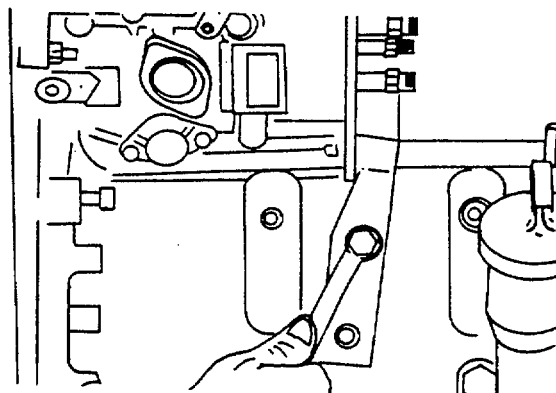

FIGURE 2-26. Support Bracket Removal.
2-32. Replace Fuel Pump Metering and Distributing Assembly. (FIGURES 2-26 through 2-31)
- a. Remove capscrews from support bracket. (FIGURE 2-26)